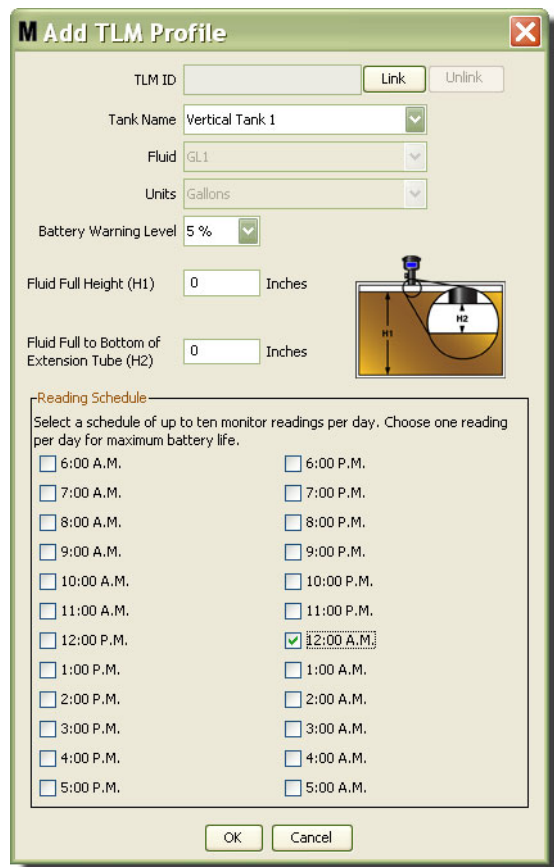

FIG. 108
3. The Add TLM Profile screen shown in FIG. 108 displays.
2. On the PC screen shown in FIG. 108, select the Link button and from the drop-down list select the TLM you are creating this profile for. This will link the TLM to the Matrix PC and enable communication between the two devices in the system.
After clicking the “Link” button the “Link” button in FIG. 108 will no longer be active and instead an “Unlink” button is active. Clicking the “Unlink” button breaks the association between this TLM and the Matrix PC.